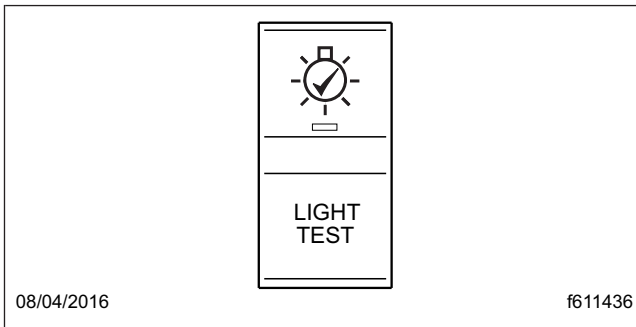

Fig. 21.8, Pretrip Light Test Switch
12. Check the operation of all exterior lamps manually or, if equipped, by using the LIGHT TEST switch on the dash. See Fig. 21.8.
14. To check the exterior lamps using the dash LIGHT TEST switch (see Fig. 21.8):